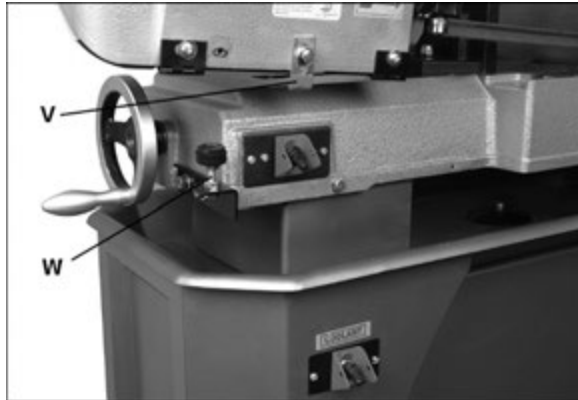

Figure 8-13: Shut-Off Adjustment
- If saw completes cut but blade continues moving, adjust trip tab (V, Figure 8-13) downward.
- If blade stops before cut is complete, adjust trip tab (V) upward.
- If blade stops descending and continues running without completing the cut, turn stop bolt (W) down.